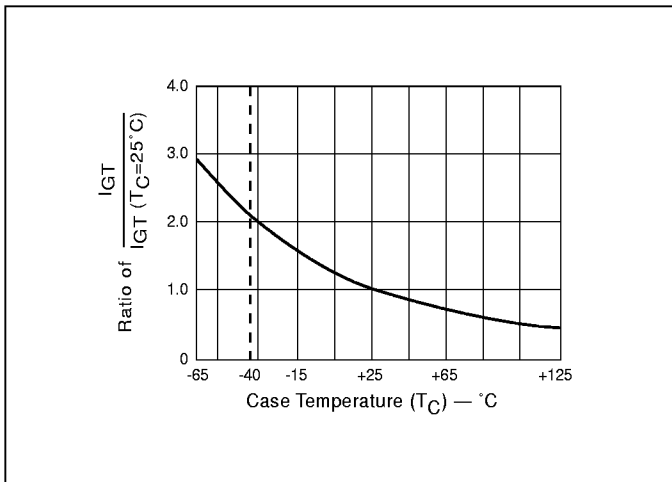

Figure 4.8 Normalized DC Gate Trigger Current for all Quadrants vs Case Temperature
- (7) See Figure 4.8 for I_{GT} vs T_C .